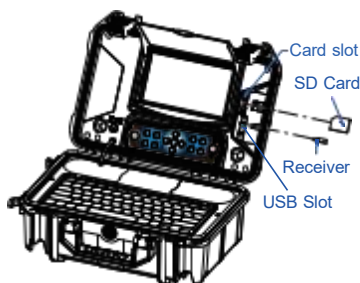

Figure 13. Install SD card and wireless receiver
5. Install SD card and wireless receiver. (Figure 13.)